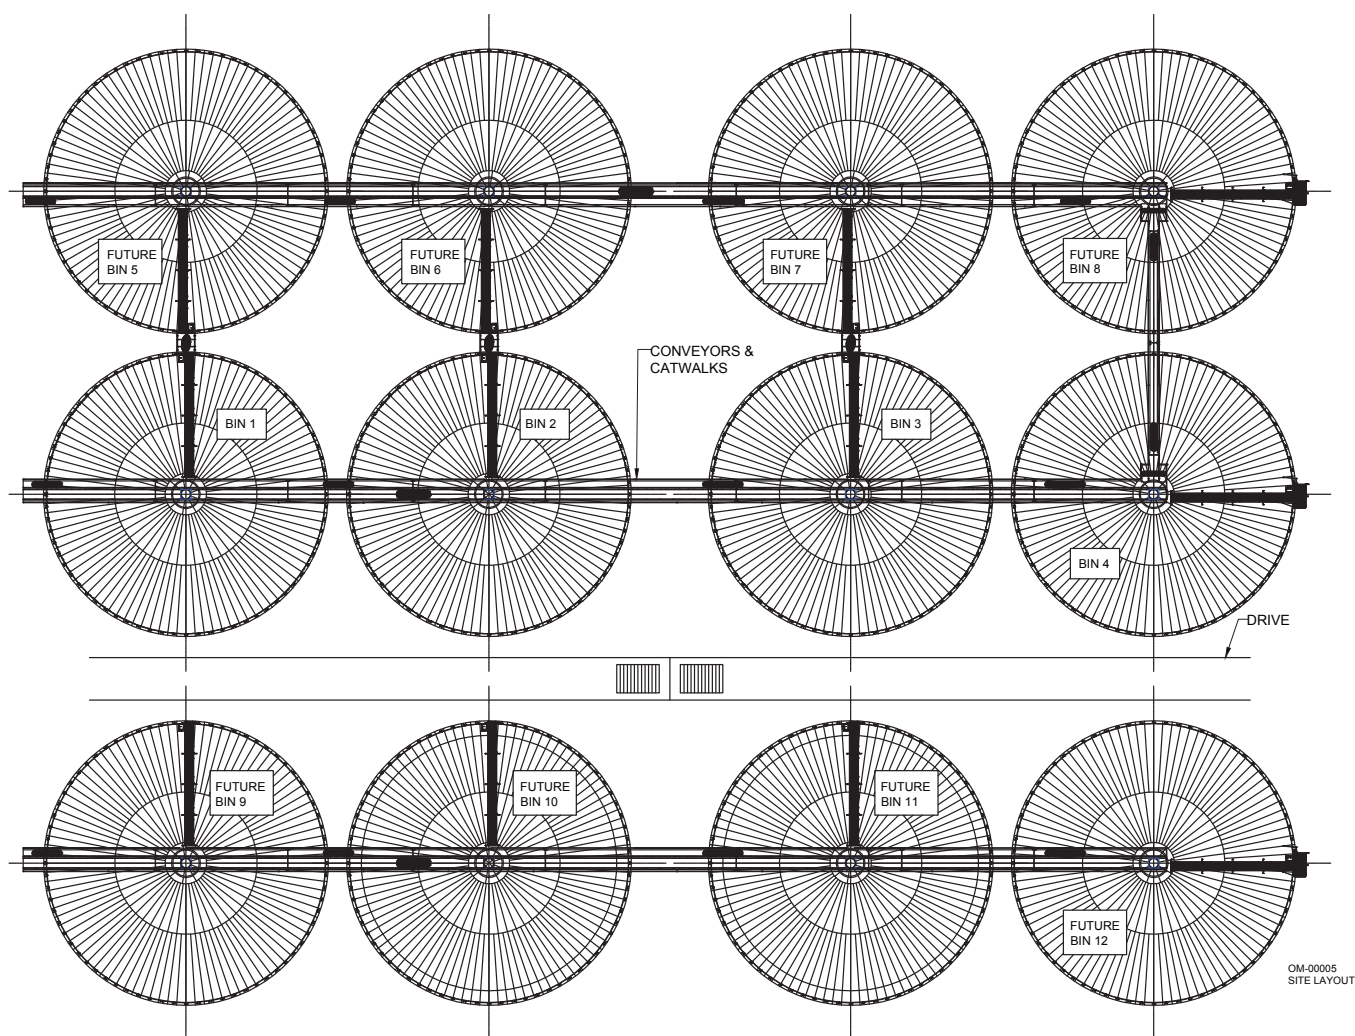

Figure 6. Example of a bin expansion project.
3.1.2. Figure 6 below shows an example of a bin site expansion project. Future grain bin locations are also shown. Although not all storage systems look like the one below, expansion projects should start with a top layout view of existing storage bins and components. When considering future expansion or updating a grain drying, storage, and handling system, think long-term.